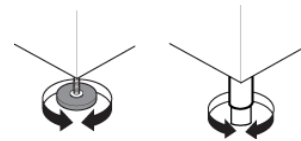

Fig. 5
- 1- Position the dishwasher and level the appliance by turning the relative height-adjustable feet. (Fig.5)